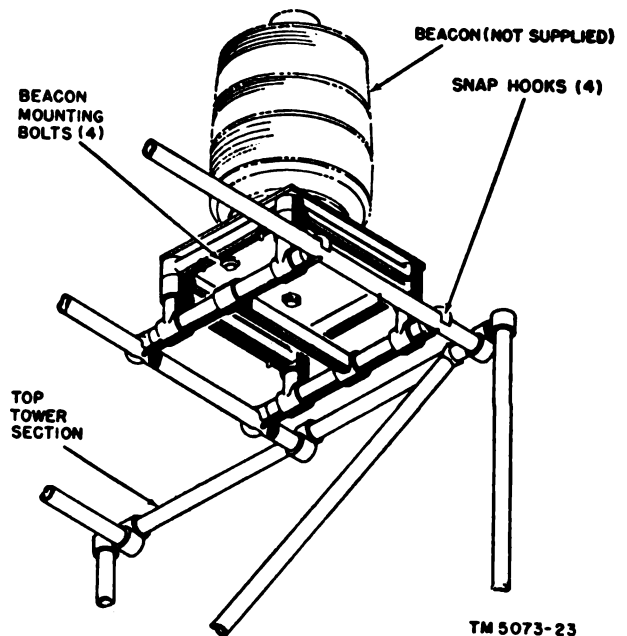

Figure 34. Tower Platform Section MT-1156/U, installed.
31. Installation of Tower Platform Section MT-1156/U (Fig. 34)